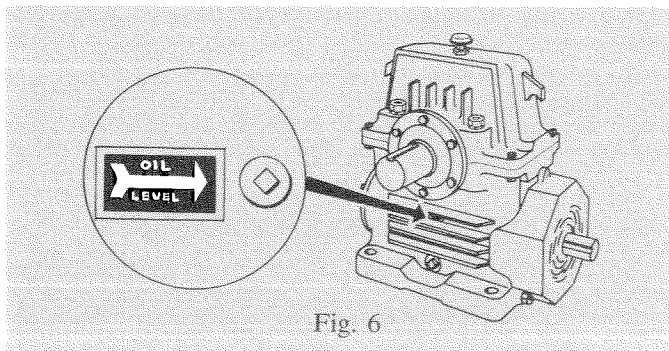

Fig. 6
7. **Fill with oil to indicated level. Before start-up all Philadelphia gear drives must be filled with the type and grade of oil specified on page 11 (Figure 6).**